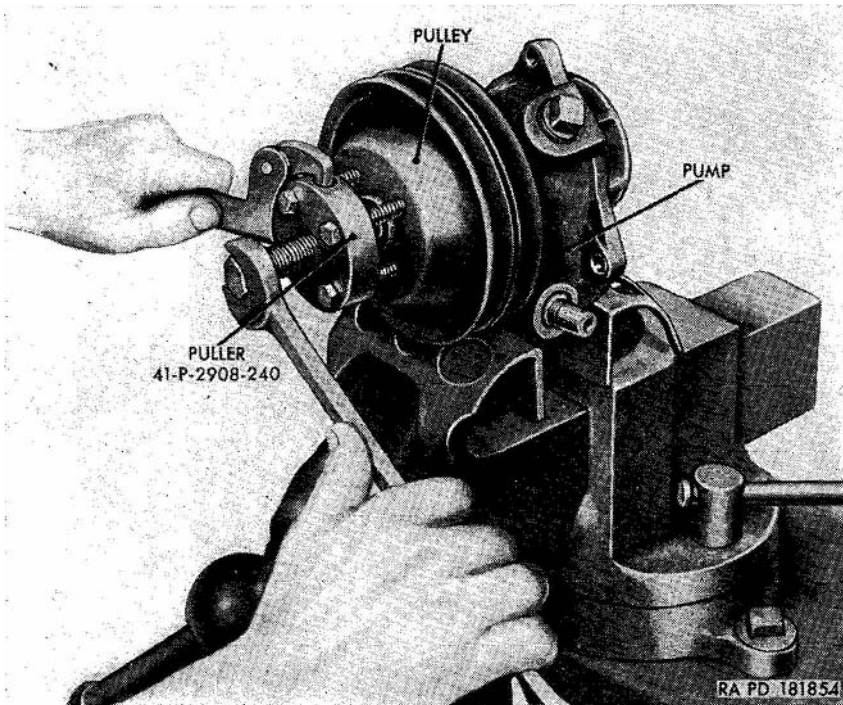

Figure 63. Removing fan and water pump pulley from water pump assembly, using puller—41-P-2908-240.
- (1) Remove the radiator with shroud assembly (par. 128a). Loosen the hose clamps screw on the water pump end of the radiator water outlet hose, and remove hose with clamp from connection on the water pump. Loosen the hose clamp screw on the water pump end of the water pump bypass hose. Remove the fan and generator drive belt set (par. 130b).
- (2) Remove the four bolts and lockwashers securing the fan blade to the fan and water pump pulley, and remove fan blade.
- (3) Remove the four screws and lockwashers securing the water pump to the cylinder block. Pull the pump with pulley and gasket from the cylinder block, at the same time, slipping the connection on the water pump out of the end of the water pump bypass hose. Discard gasket.
- (4) Clamp the water pump in *a* vise with soft jaws. Using puller-41-P-2908-240 (fig. 63), remove the pulley from the pump.